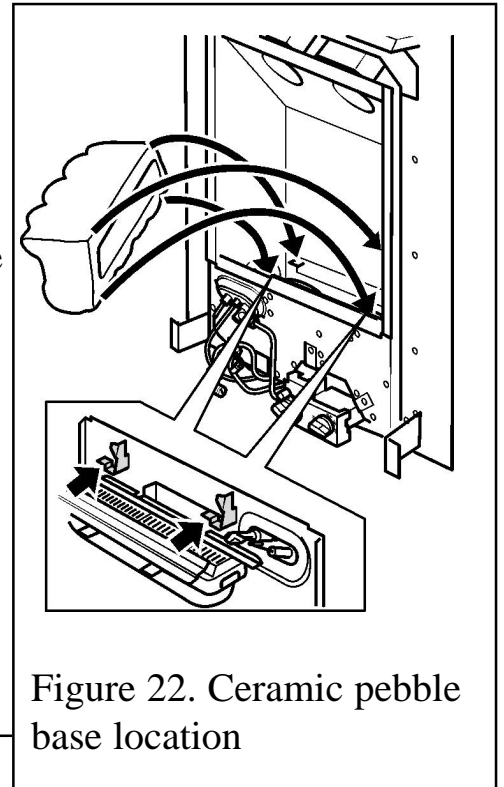

Figure 22. Ceramic pebble base location
1. Fit the ceramic pebble base into the fire above the burner. The front of the ceramic pebble base should locate on the horizontal faces but behind the vertical faces of the two location brackets positioned at the front of the burner module (See figure 22).